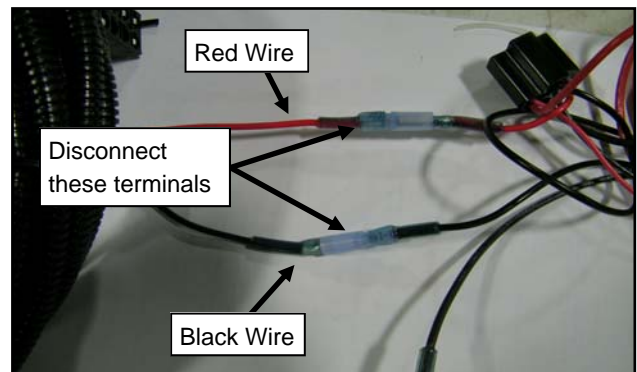

Fig. 3.2 (Terminals to Disconnect)
- 3.2** The rear of the switch has two sets of wires (red/black and pink/green) coming off the back of it. Disconnect the relay holders from the red/black wires at the bullet terminals and route the two sets of wires (red/black and pink/green) downwards and through the hole under the dash so that the wires are routed out under the hood. Use a dremel or reamer to trim some plastic if necessary to ease installation. Fig. 3.2.